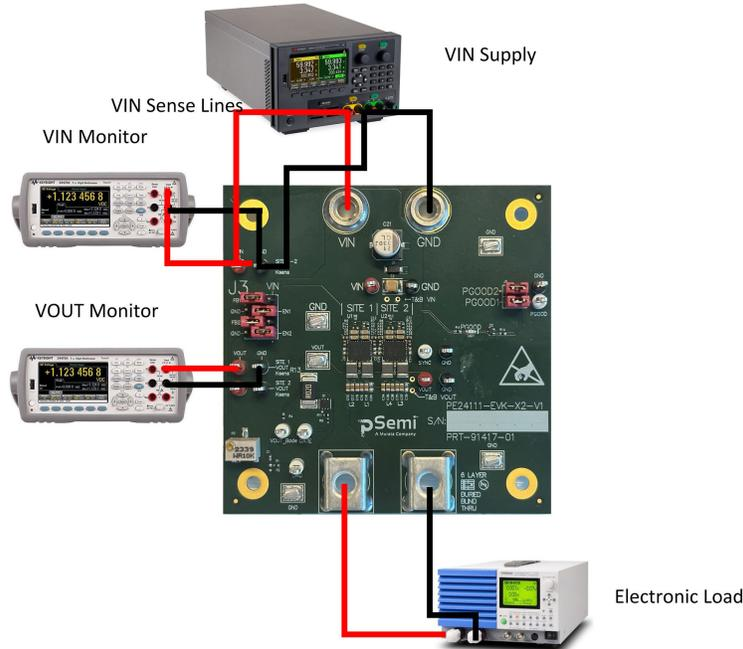

Figure 2. EVK connection example
Connect the EVK and the lab equipment as shown in Figure 2. Connect the power supply sense lines to the VIN kelvin sense test points to ensure minimal supply voltage droop and accurate voltage regulation at the device input. Due to the high currents present—especially in the x2 configuration—use 14-gauge connection wires for the supply and load.
2. Connect the power supply and sense lines, electronic load, and DMMs as shown in Figure 2.